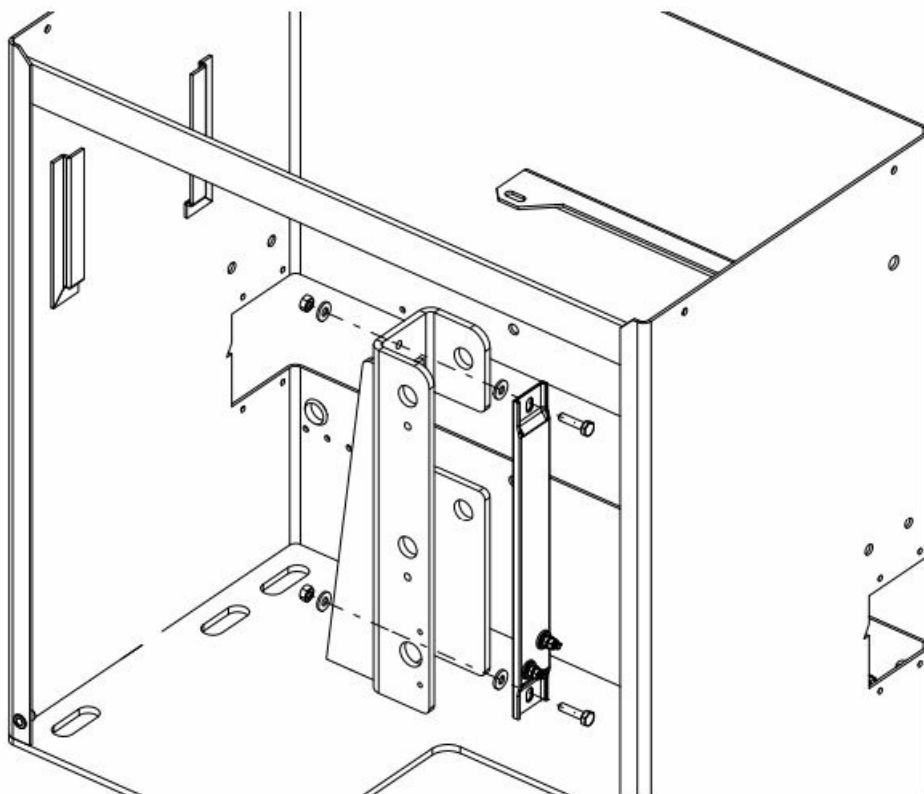

Figure 7. Install Heater Strip
10. Install the heater strip vertically in the drive post with the terminals down and facing out with the 1/4-20 x 1 in bolts (Figure 7).